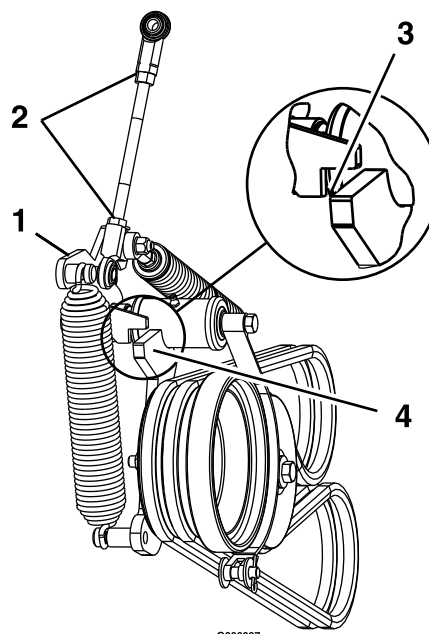

**Figure 51**
6. Loosen belt guides **A** and **B** (Figure 51).
8. Route the new belts onto the pulleys as shown in Figure 51.